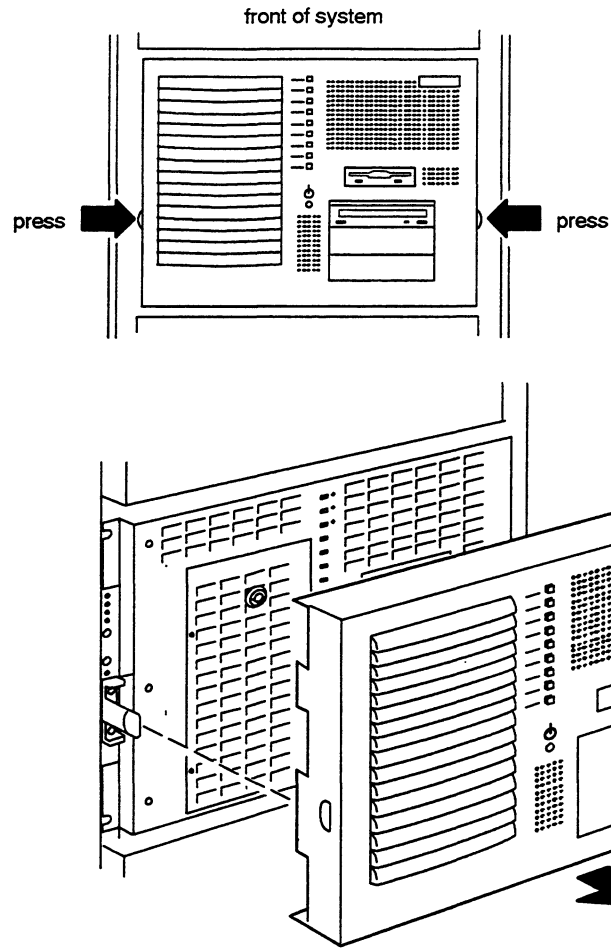
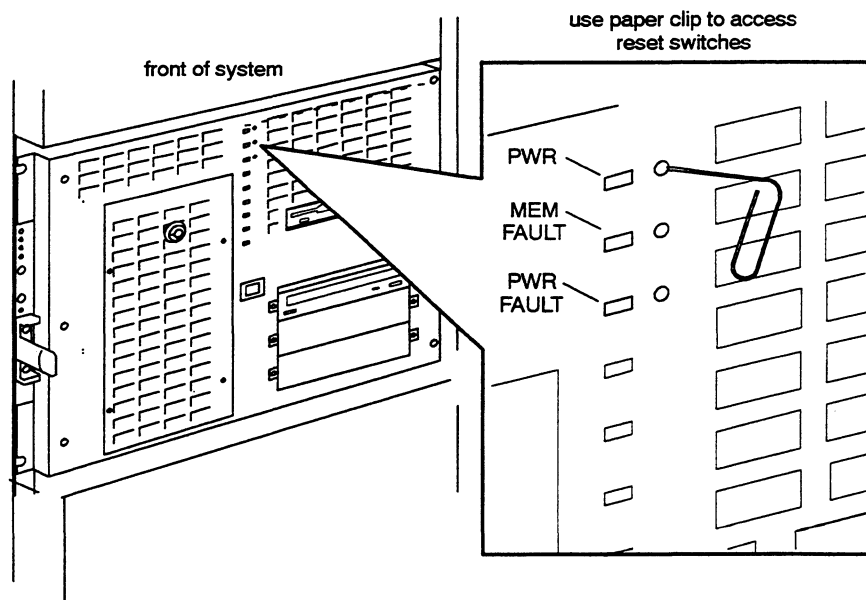

Figure 2-3 Removing the front panel
Figure 2-4 Reset switches
- **Reset switches** — Once you remove the front panel as shown in Figure 2-3, you can access the System, Memory, and Power Supply Alarm Reset switches by inserting a small blunt instrument through the access slot in the mounting plate. Push the appropriate switch in to reset the condition (see Figure 2-4).